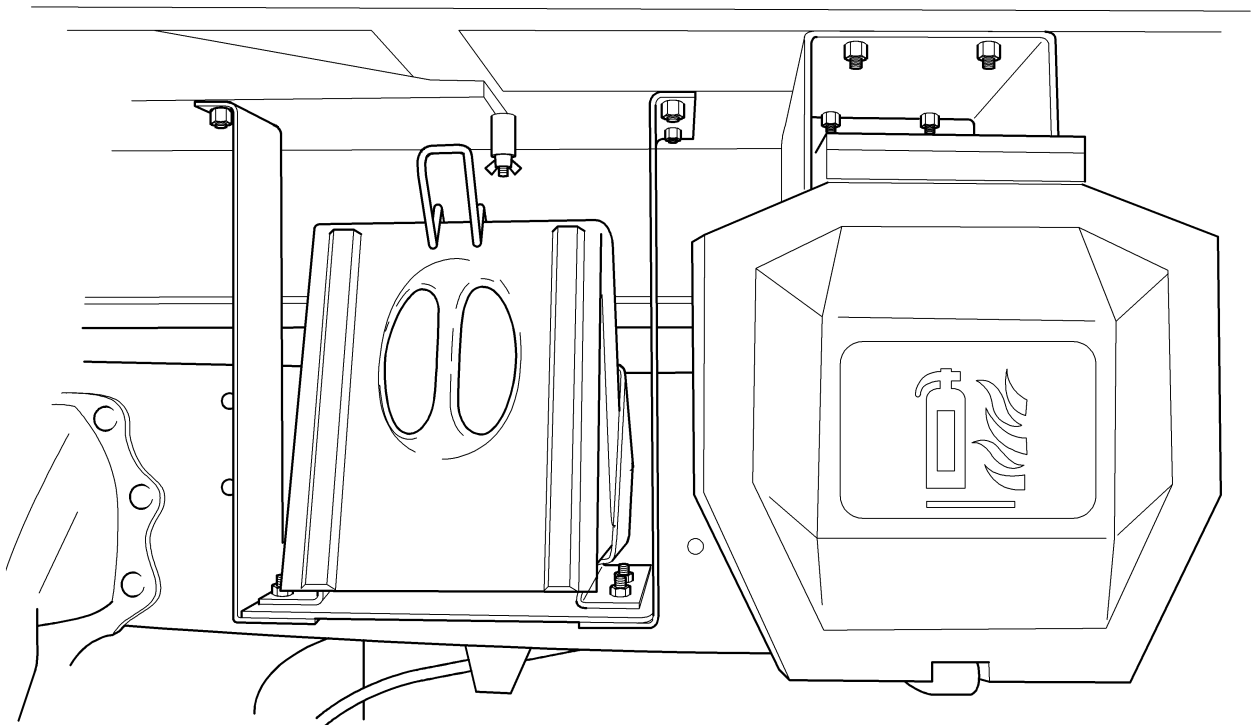

Fig 3 Wheel chock fixing RH side
- (1) The Spring Clip (NSN 2590-99-562-5942) must be secured on the baseplate of the Chock Bracket assembly using the existing screws, nuts and washers (see Fig 3).
- (2) Some variants of the 4 TONNE Bedford trucks will have different fixing positions (for the LH & RH sides) to accommodate the Wheel Chock Bracket.